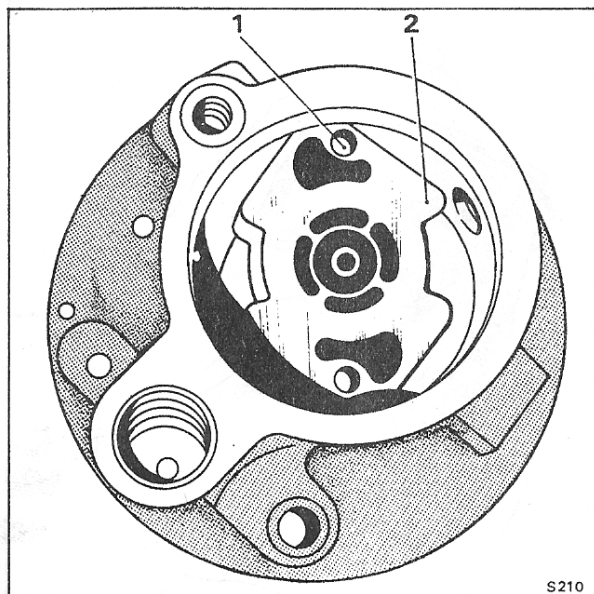

Fig. N20 Correct positioning of thrust plate
4. Fit the thrust plate over the dowel pins and into position in the housing with the ported face uppermost, i.e. to the rear of the pump housing (see Fig. N20).